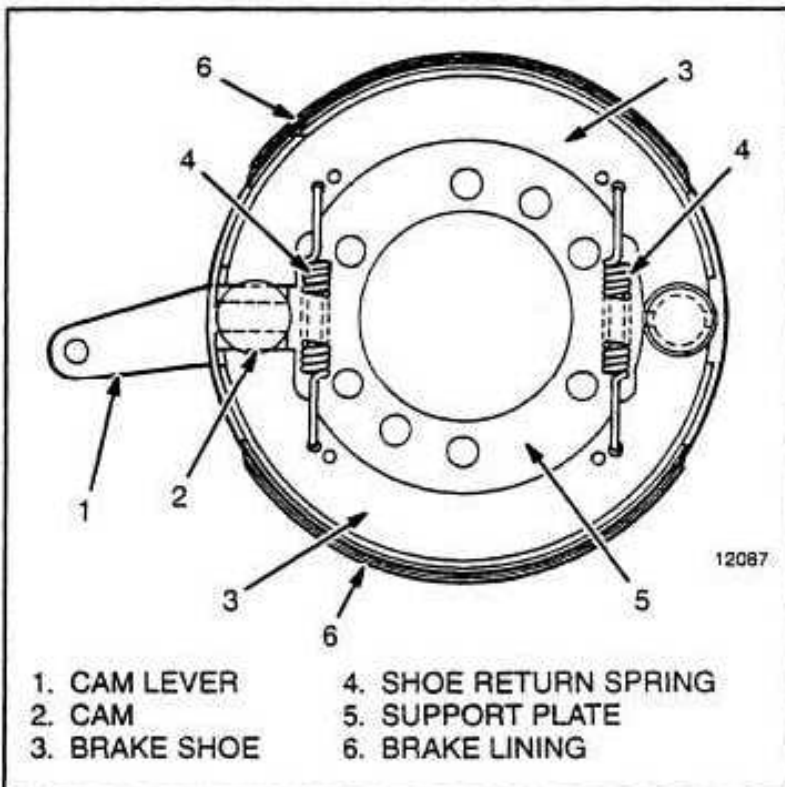

Figure 5-2 - Brake Assembly
3. Check for damaged or broken parts. Replace any damaged or broken parts. Replace both brake shoes if the minimum thickness of either brake lining is 2.4 mm (0.09 in) or less. Disconnect the shoe return springs to remove the brake shoes. See Figure 5-2. The maximum allowable inside diameter of the brake drum is 153.2 mm (6.032 in). Replace the brake drum if the maximum inside diameter exceeds the maximum allowable inside diameter.